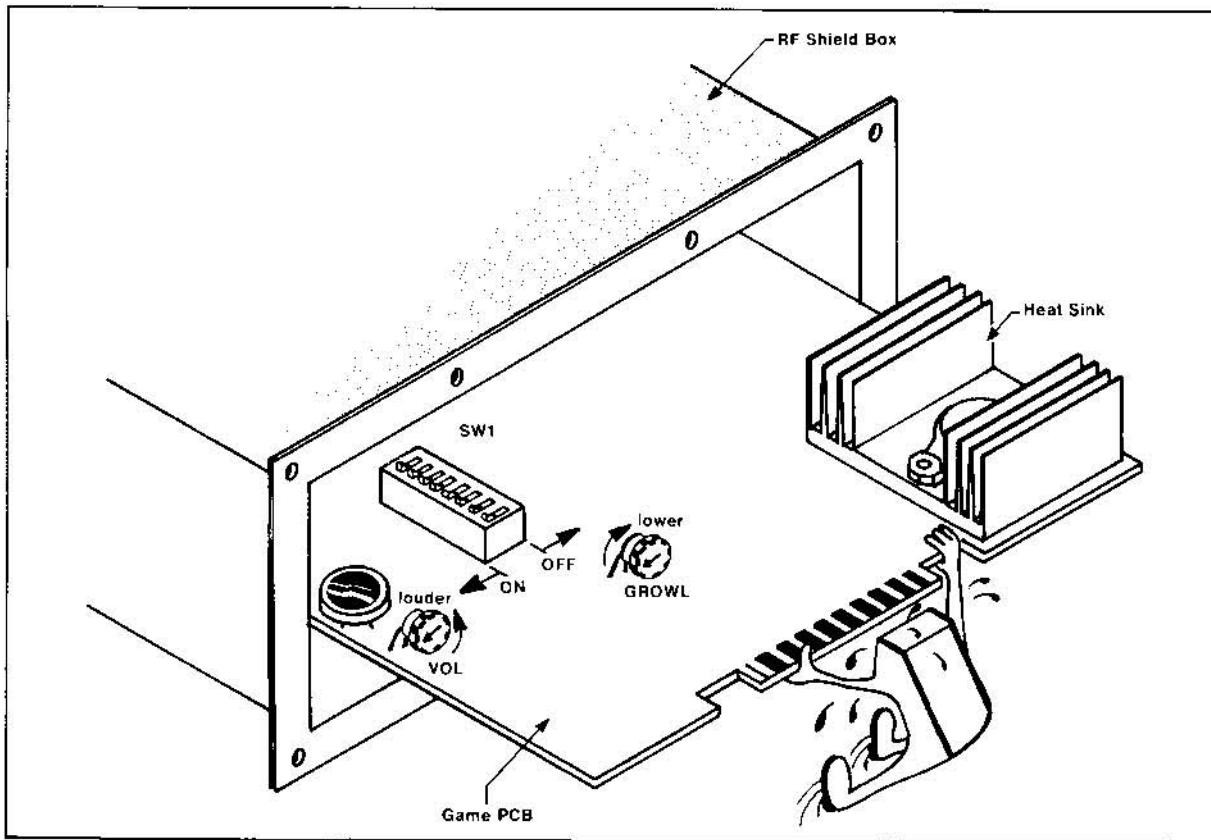

Figure 7 Locations of Switch Assembly SW1 and Potentiometer Adjustments
- 6) Slide the Game PCB about half way out of the box. It will not be necessary to completely remove the Game PCB from the box. Locate Switch Assembly SW1 on the surface of the Game PCB. (Refer to Figure 7).
- 7) Set the positions of the miniature switches on SW1 so that they will correspond to the game selection and other operator options desired, as listed in Table 3. Any adjustments of speaker volume or of the pitch (bass or treble sound), or the bear growl can also be made at this time, by manually moving the studs on the potentiometers shown in Figure 7.